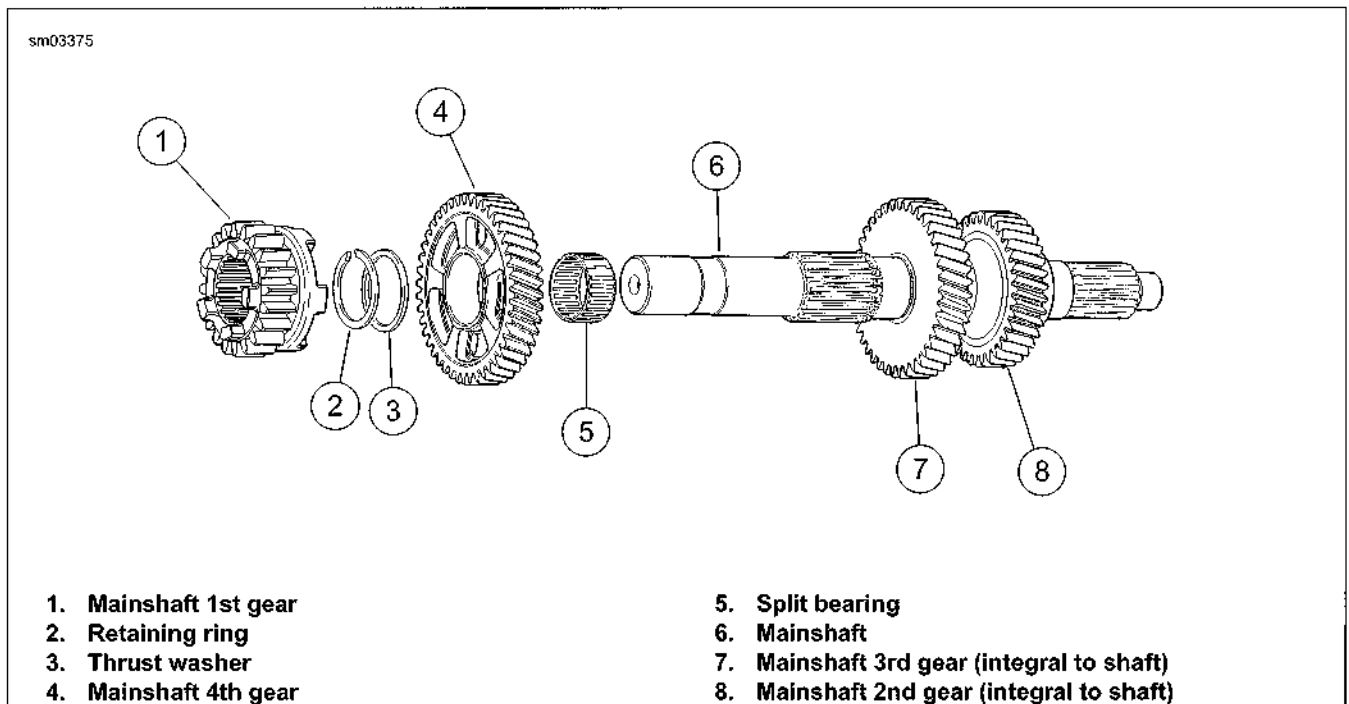

Figure 5-39. Transmission Mainshaft Assembly Once Removed from Left Crankcase/Disassembly
1. See Figure 5-39. Install **new** split bearing (5) in fourth gear position on mainshaft.
2. Install fourth gear (4) and thrust washer (3).
3. Using RETAINING RING PLIERS (Part No. J-5586-A), expand and install **new** retaining ring (2).
4. Install first gear (1).